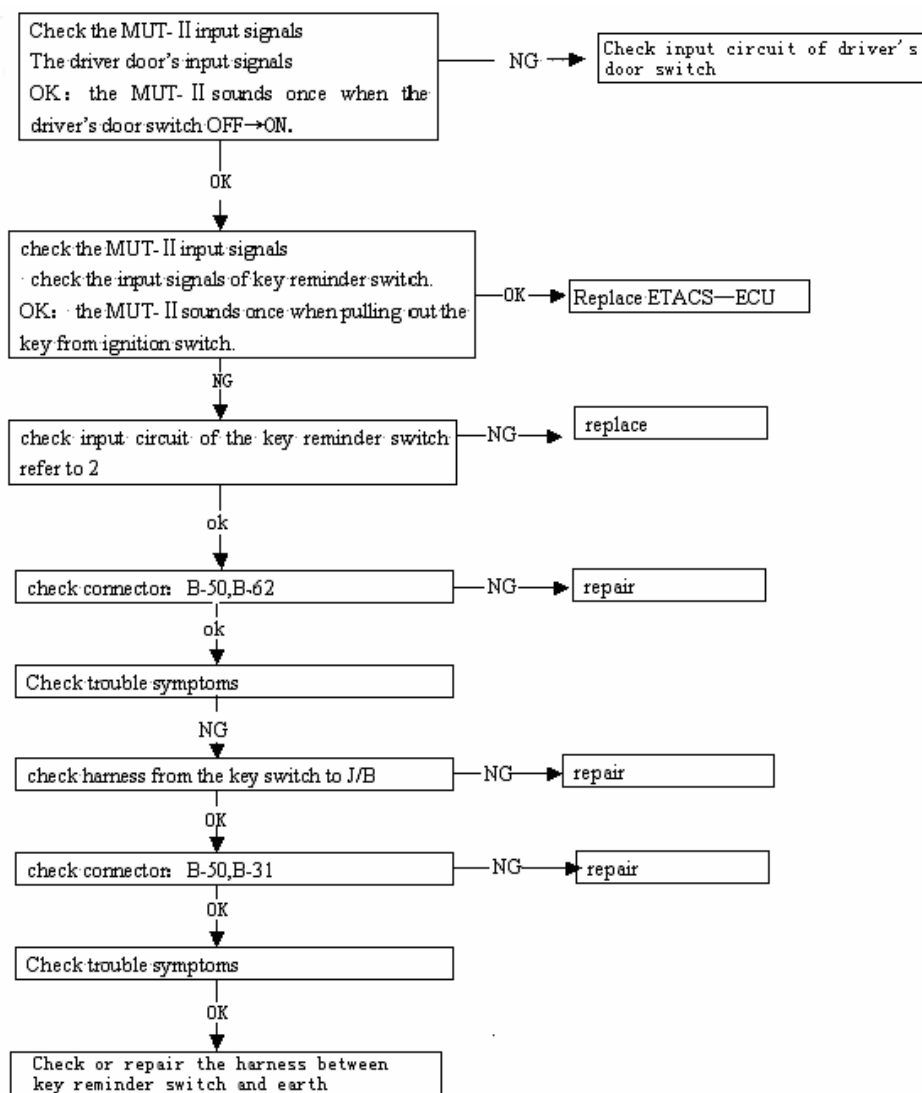

Fig 20—30
5) Trouble symptoms inspection step 3 as table 20—8、fig 20—31